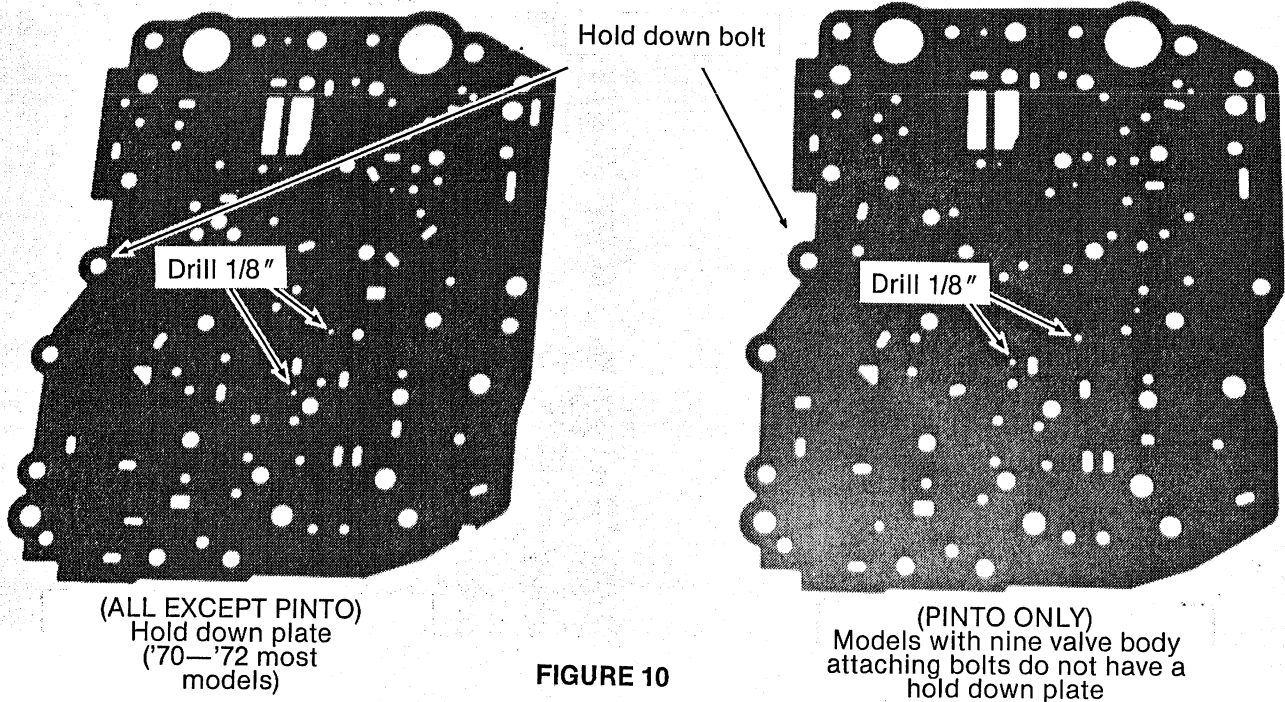

FIGURE 10
STEP 15. Place the **transfer plate** assembly in front of you with the **separator plate** up. (See Fig. 10) Note the position of the hold-down bolt. Remove the hold-down bolt and the **separator plate**. Pinto only: There will be a check valve and spring under the separator plate. Remove it and set it aside.
Step 16. Scrape off any excess gasket material from the **separator plate** and **transfer plate** casting. Discard the rubber check balls in the transfer plate. Wash the **transfer plate** in solvent. See Fig. 10 for separator plate drilling.
ALL: Install **separator plate** in place on **transfer plate**. Do not use a gasket. Install hold-down bolt in its proper position. (See Fig. 10) Install bolts in place and tighten bolts finger tight.